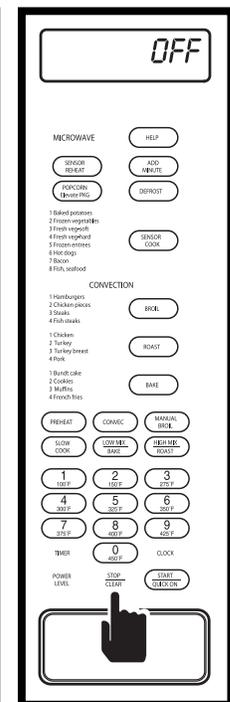

Figure 3-70.
6. When the **STOP/CLEAR** key is pressed at this time, the display will flash "DEMO - OFF" (See Figure 3-70) and then show time of day.